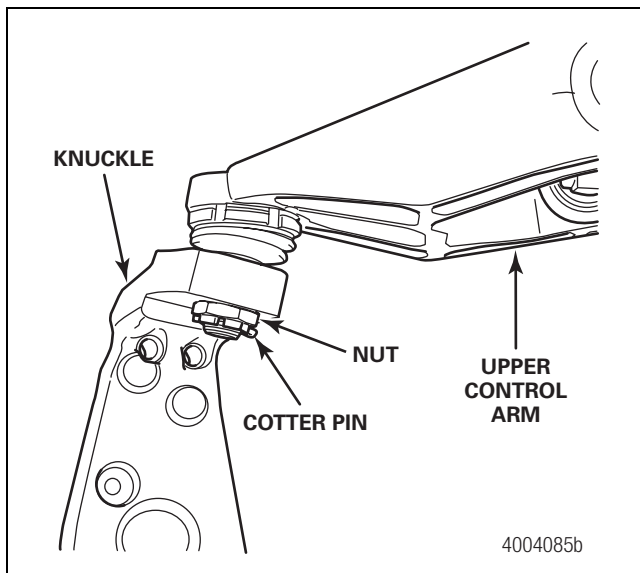

Figure 5.6
6. Remove the cotter pin and nut that secure the knuckle to the upper control arm ball joint. Figure 5.6.